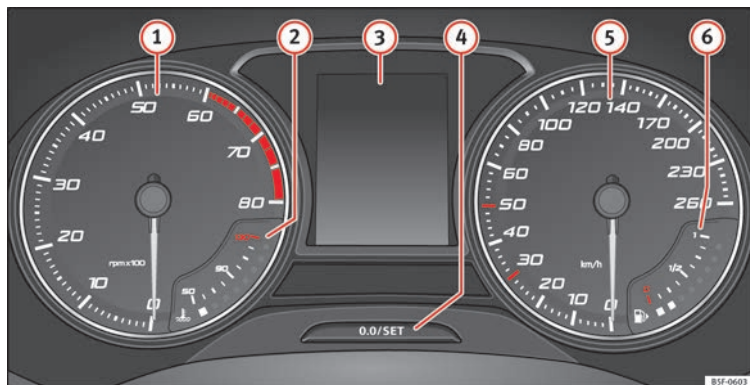

Fig. 122 Instrument panel, on dash panel.
Details of the instruments » **Fig. 122:**
The rev counter indicates the number of engine revolutions per minute »» **Fig. 122** ❶.
»» **Fig. 122** ❶ to go into the red zone on the
A variety of information can be viewed on the instrument panel display »» **Fig. 122** ❸, depending on the vehicle equipment:
- Briefly press the button »» **Fig. 122**  to reset the trip recorder to 0.
- To set the time, keep the button »» **Fig. 122**  pressed for more than 3 seconds to select the hour or minute display.
Hold the button » Fig. 122 4 down for more than 15 seconds to display the vehicle's engine code (MKB). To do this, the ignition must be switched on and the engine switched off.